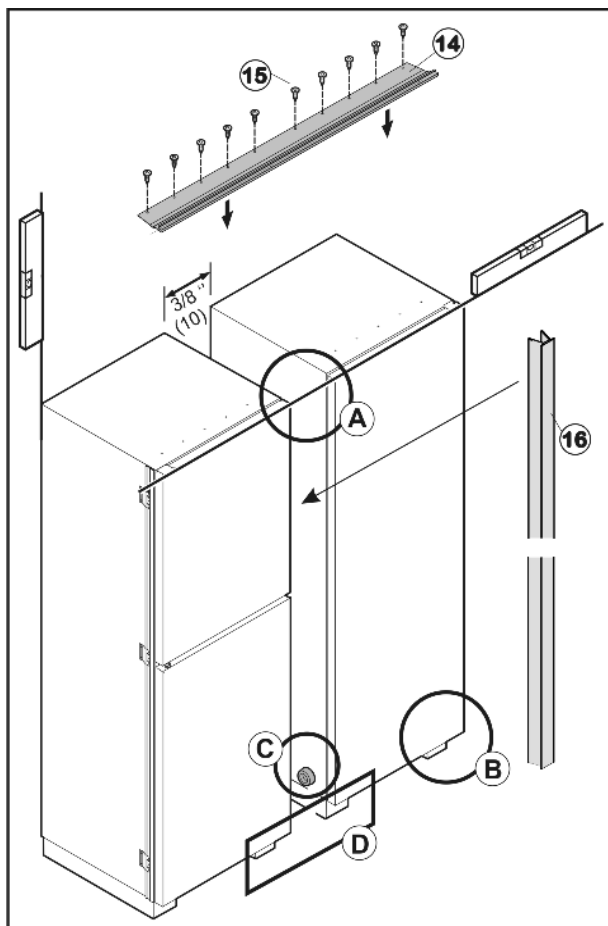
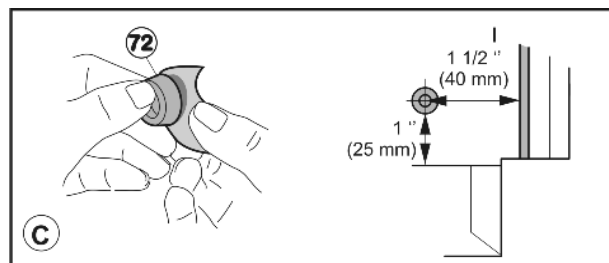
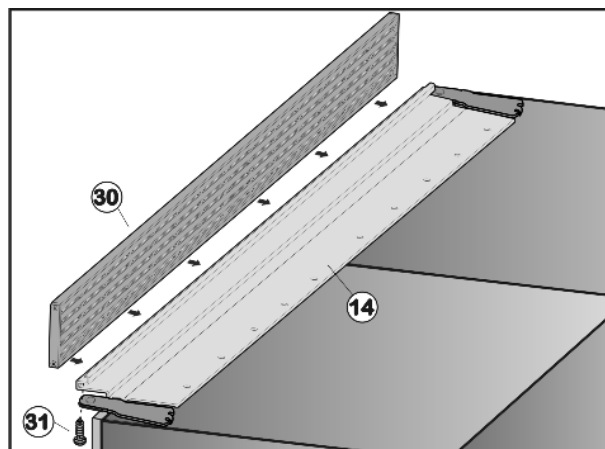
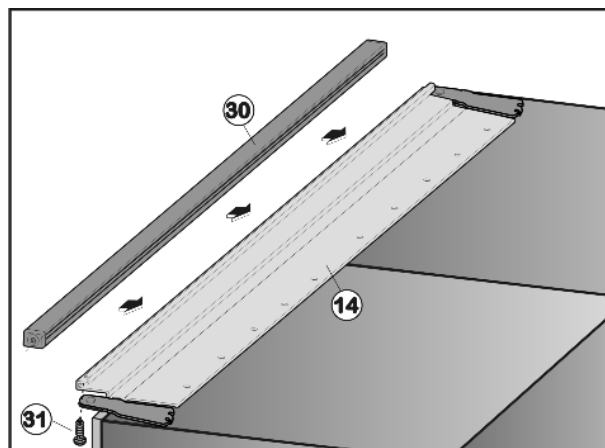

Fig. 48
Fig. 50
Fig. 55
Fig. 56
- Glue spacer Fig. 50 (72) onto the lower part of the side wall on the handle side, approximately 1.5 in. (40 mm) as measured inwards from the front edge of the appliance.
- Position end strip Fig. 48 (14) over the installation contour and align it such that the holes in ventilation grille and installation contour are above each other.
- Screw on upper installation contour Fig. 48 (14) through the pre-cut holes using screws Fig. 50 (15).
- Position ventilation grille Fig. 55 (30) over the installation contour Fig. 48 (14) and align it such that the holes in ventilation grille and installation contour are above each other.
- Screw ventilation grille Fig. 55 (30) to installation contour from below using four screws Fig. 55 (31).
- Position end strip Fig. 56 (30) over the installation contour Fig. 48 (14) and align it such that the holes in ventilation grille and installation contour are above each other.
- Screw end strip Fig. 56 (30) to installation contour from below using four screws Fig. 56 (31).